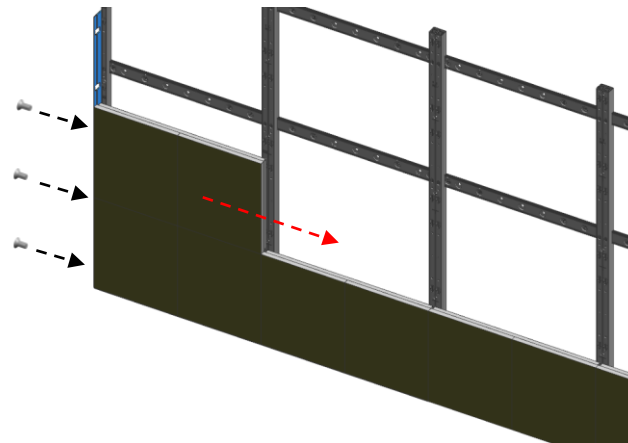

Fig.5 Cabinet of 2nd floor should be fixed with align jig.
- ⑥ Install other upper floors with the same way. (Fig.5, 6)